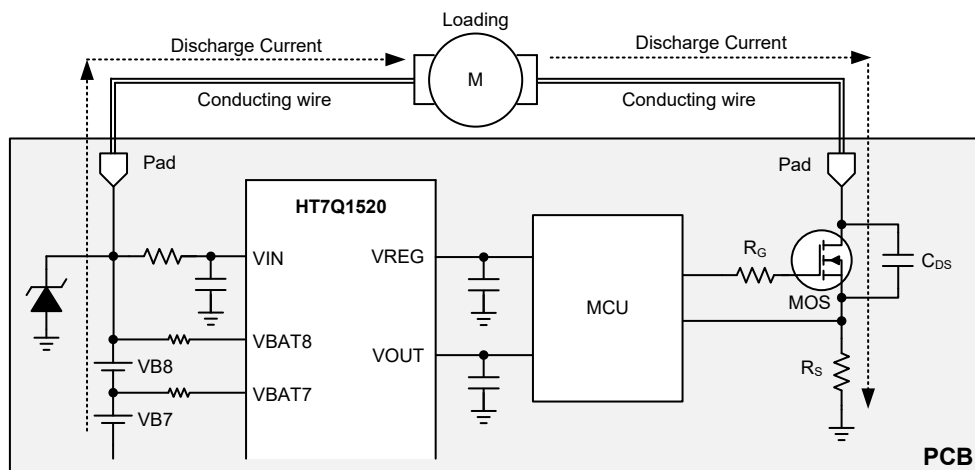

Fig 6. Simplified Typical BMS System Discharge Path Diagram
3. Add a capacitor (C_{DS}) between the drain and source nodes of the MOS switch as shown in Fig6. The recommended capacitance is 0.1μ F to 0.22μ F.